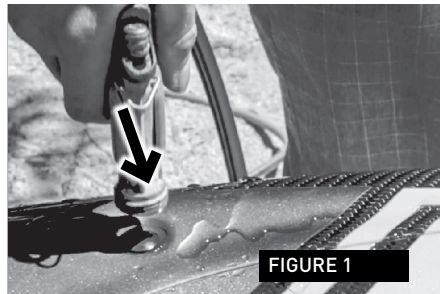

FIGURE 1
Regularly inject preservative spray to the lubrication holes - FIGURE 1 and 2. Apply preservative spray also to the muffler and alternator bearing - FIGURE 3 and 4 on the next page.
The following picture – FIGURE 1 shows the correct position of the rider when starting from shallow water. The rider holds his/her JetSurf™ with both hands in such a way that with his/her more dextrous hand he/she is able to hold the vessel and control the throttle trigger at the same time – FIGURE 2. **The rider IS STANDING next to the board, NOT LYING on the board.** When the rider is in the correct position for starting, with his/her free hand in which he/she does not have control handle he/she can insert the engine shut-off key in the engine shut-off switch (on condition that the ICU has been activated) – FIGURE 3.
1) Take the holder from the spark plug boot - FIGURE 1 and remove the boot from the spark plug - FIGURE 2. Screw the spark plug out using a spark plug spanner which is supplied within the accessories. Dry the spark plug properly. If the spark plug has been in operation for more than 6 hours, it should be replaced.